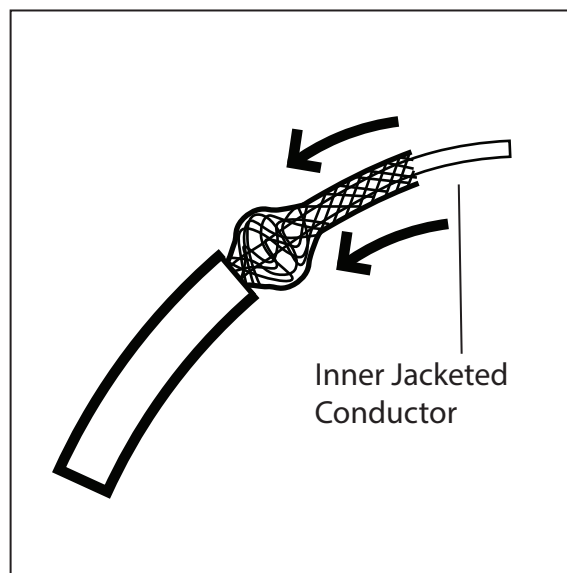

Fig. 2
3. Fig. 1 - Install each shade by lowering the shade connector (A) over the cord collar (B), sliding it forward until it stops, then tightening the shade screw (C). If the shade connector can't move forward, first loosen the screw slightly. Fig. 2 shows completed shade.
3. Slide the outer braided conductor back to create a bulge and reveal the inner jacketed conductor (Fig. 2).